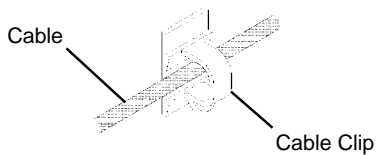

Figure 7
4. **Cable Clips** are provided for additional cable management as required. See **Figure 7**.